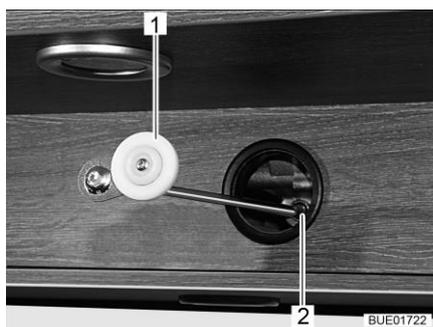

Fig. 152 Mechanical operation, drive
- Insert the crank (Fig. 152,1) provided or an Allen wrench into the accommodation on the motor (Fig. 151,1 and Fig. 152,2).